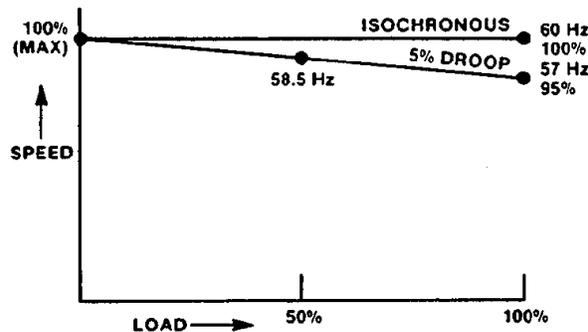

Figure 3-3. Droop Adjustment
* If only 50 percent loading is possible, 58.5 Hz would indicate 5 percent droop. See Figure 3-3.